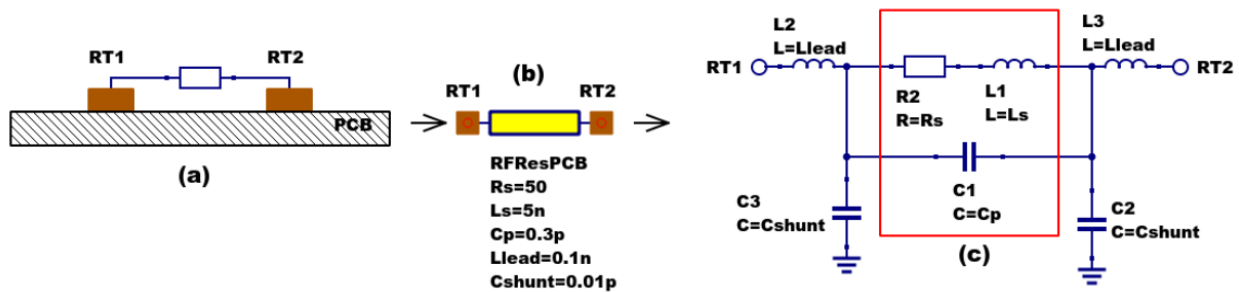

Figure 2 - PCB mounted resistor: (a) axial component mounting, (b) Qucs symbol and (c) equivalent circuit model.
The schematic symbol, I/V equation and parameters of the Qucs linear resistor model are shown in Figure 1. In contrast to this model Figure 2 illustrates the structure of a printed circuit board (PCB) mounted metal film (MF) axial RF resistor (a), its Qucs schematic symbol (b) and its equivalent circuit model (c). A thin film surface mounted (SMD) resistor can also be represented by the model shown in Figure 2 (c).
At signal frequencies where the largest dimension of an axial or SMD resistor is less than approximately 20 times the smallest signal wavelength a resistor can be modelled by a lumped passive circuit consisting of a resistor **Rs** in series with a small inductance **Ls** with the combination shunted by parasitic capacitor **Cp**. In Figure 2 **Rs** is the nominal value of resistor at its parameter extraction temperature **Tnom**, **Ls** represents the inductance associated with **Rs** where the value of **Ls** is largely determined by the trimming method employed during component manufacture to set the value of **Rs** to a specified tolerance. Similarly, capacitor **Cp** models a parasitic capacitance associated with **Rs** where the value of **Cp** is a function of the physical size of **Rs**. At RF frequencies it is important, for accurate operation, to add lead parasitic elements to the intrinsic equivalent circuit model shown within the red box draw in Figure 2. In Figure 2 **Llead** and **Cshunt** represent resistor series lead inductance and shunt capacitance to ground respectively.
A typical set of model parameters for a 51Ω 5 % MF axial resistor are (1) **Ls = 8nH**, **Cp = 1pF**, **Llead = 1nH** and **Cshunt = 0.1pF**. Illustrated in Figure 3 is a basic S parameter test bench circuit for measuring the S parameters of an RF resistor over a frequency range 1 MHz to 1.3 GHz. This example also demonstrates how the real and imaginary parts of a resistor model impedance can be extracted from S parameter simulation data. The graphs in Figure 3 clearly demonstrate that the impedance of the typical MF RF resistor described in previous text and modelled by the equivalent circuit shown in Figure 2 is a strong function of frequency at higher frequencies in the band 1 MHz to 1.3 GHz.
Figure 10 - Qucs simulation of nominal 47 Ω resistor based on theoretical analysis.Figure 11 - Qucs device model parameter extraction system applied to a nominal 1000 Ω resistor represented by the subcircuit model illustrated in Figure 2(c).
Figure 13 - Qucs device model parameter extraction system applied to a nominal 100 Ω SMD resistor represented by the subcircuit model illustrated in Figure 2 (c).
Listed below is an example Verilog-A code model for the RF resistor model introduced in Figure 2 (c). Due to the limitations of the Verilog-A language subset provided by version 2.3.4 of the "Analogue Device Model Synthesizer" (ADMS)⁴ inductors **Ls** and **Llead** are modelled by gyrators and capacitors with values identical to **Ls** or **Llead**.